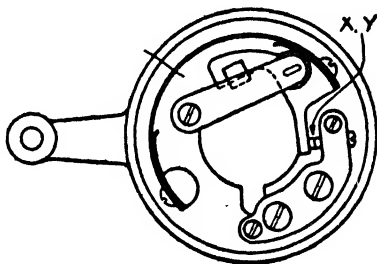

Fig. 75. Dixie Interrupter
*Y* the points of the interrupter or contact breaker. The terminal *D* is a screw on the head of the coil, and the wire *Z* connects directly with the contact *Y* of the interrupter. Fig. 75 shows the details of this interrupter, the housing of which is attached to the mounting of the windings, while the details of the secondary circuit are shown in Fig.